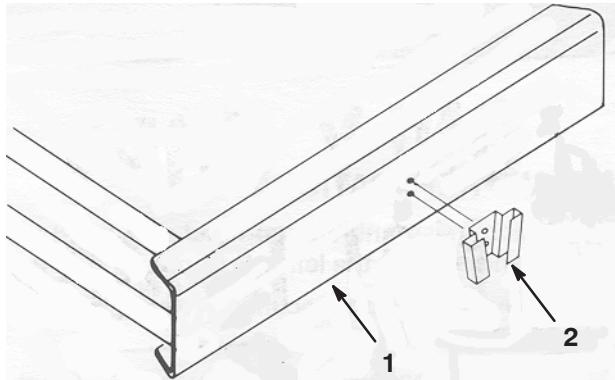

Figure 19
1. Position the SMV socket in the center of the rear bumper as shown in figure 19.